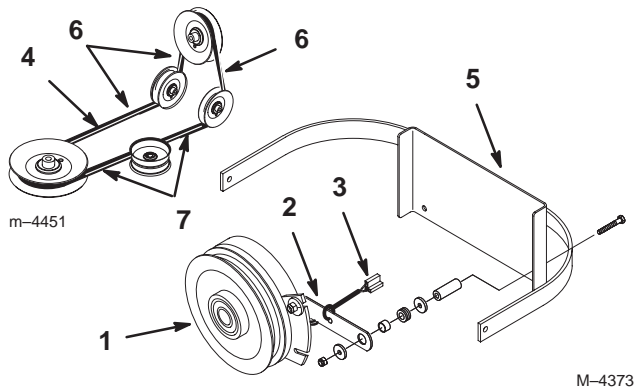

Figure 61
2. Remove the clutch retaining strap from the machine frame and unplug the clutch terminal from the wire harness (Fig. 61).
3. Remove the PTO drive belt from the rear idler arm and front idler pulley assembly. Remove the PTO drive belt (Fig. 61).
4. Place the new drive belt over the clutch, around the rear idler pulley, installed into the rear idler arm assembly, installed into the front idler pulley assembly, and onto the top center pulley (Fig. 61).
Important Check the amount of twist in the belt between the pulleys. Make sure that it is only what is specified in Figure 61.
5. Install the clutch retaining strap and plug the clutch terminal into the main wire harness (Fig. 61).